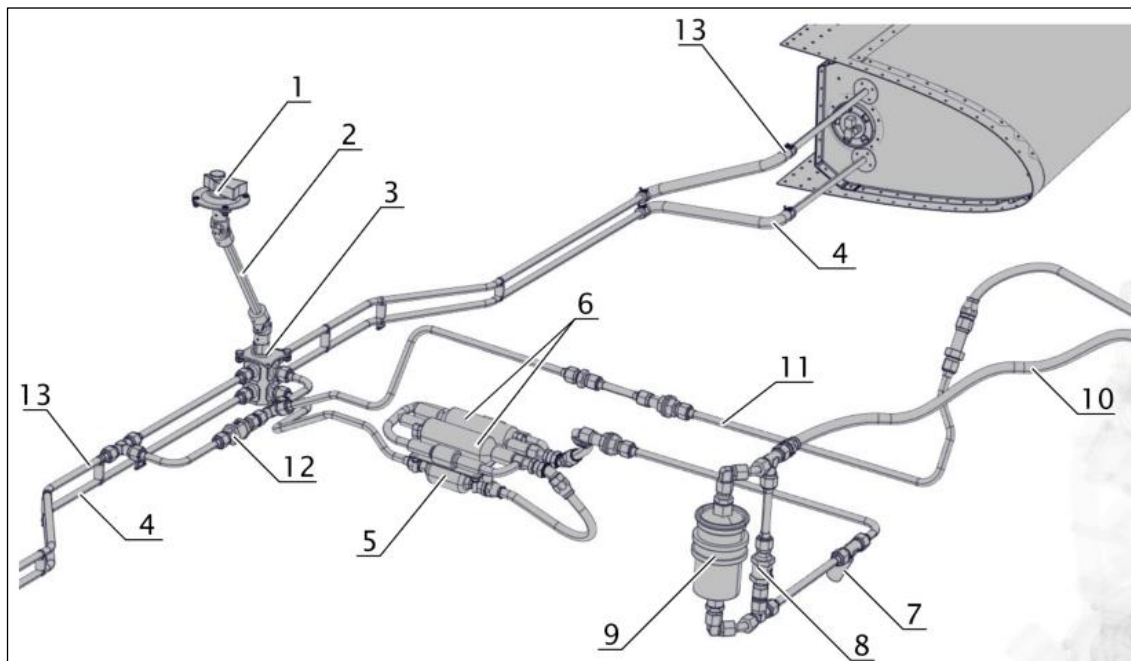

Figure 4 **Distribution**
Fuel flows from the tanks through the pick-up line (4, Figure 4) and fuel lines to the dual fuel selector valve (3), actuated by the fuel selector handle (1) over the handle extension (2). From the fuel selector valve the fuel is filtered in the coarse fuel filter (5) and led to the fuel pump assy (main and aux; 6) located in the fuel pumps bay. From there it passes the fine fuel filter (9) with an alternative way through the bypass (8) in case of clogged fine fuel filter. Upstream from the fine filter the fuel pressure is measured (7). After the fine filter the fuel is fed (10) into the fuel rail and from there distributed to the fuel injection pumps. The excess fuel is returned through the return line (11) into the chosen tank (left/right; 13). A bypass routing (12) feeds the return flow into the RHS tank to prevent overpressure in the return part of the fuel system with closed fuel selector valve. The fuel selector valve (3) works also for interruption of fuel supply in case of engine fire or for airplane long-time parking. The fuel selector is located on the middle console between the seats in the cockpit.